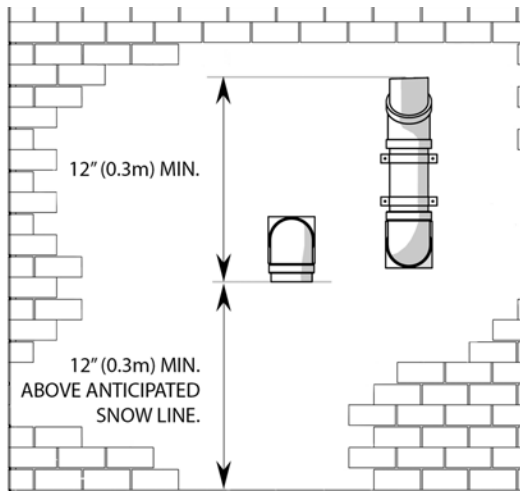
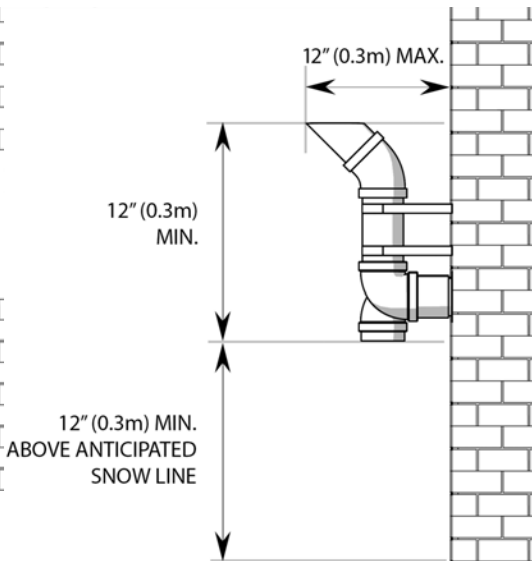
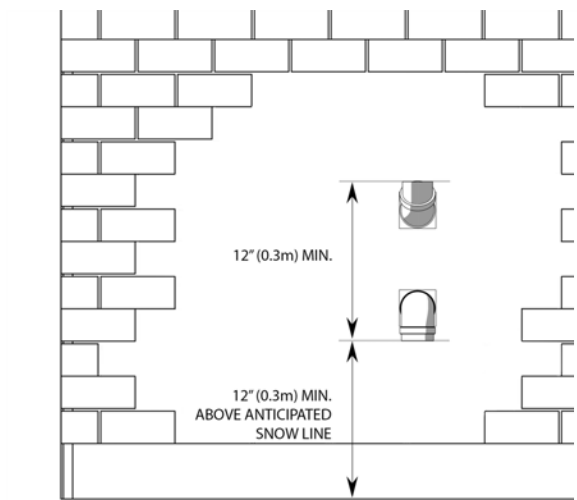
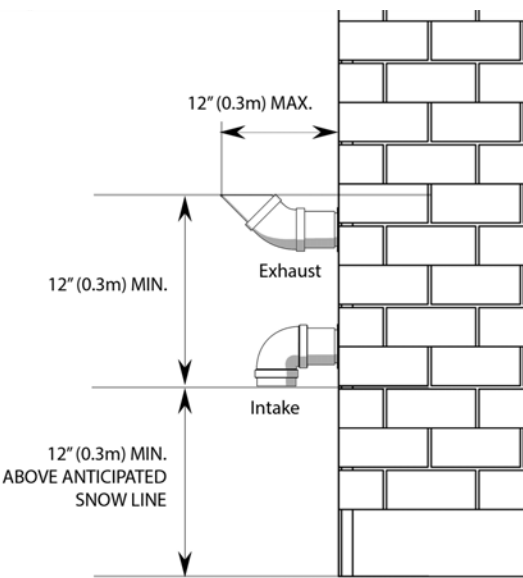

Figure 20 Vent termination clearance--horizontal perforations
Figure 21 Vent termination clearances--horizontal perforations, side view
Figure 22 Vent termination clearance--vertical alignment
Figure 23 Vent termination clearances--vertical alignment, side view
- » (Optionally) Raise the elevation of exhaust termination "periscope style" after passing through the wall, to gain the required clearance as shown in Figure 20 and Figure 21.
- » Use a 45° elbow on the exhaust termination to launch the plume up and off the sidewall (for protection of wall). A short piece of venting cut at 45° gives a horizontal termination protected from wind loads (see Figure 21, and Figure 23).
Important!: Maintain at least the minimum separation of exhaust vent termination from boiler intake air as illustrated in Figure 20 , Figure 21 , Figure 22 and Figure 23 . Failure to maintain the minimum separation can result in a dangerous situation where exhaust gasses are re-ingested with combustion air. Damage to the boiler can result from a failure to maintain these separations. Third party vent termination kits and concentric wall penetration kits that do not maintain these minimum separations must **not** be used. Improper installation will void the warranty.